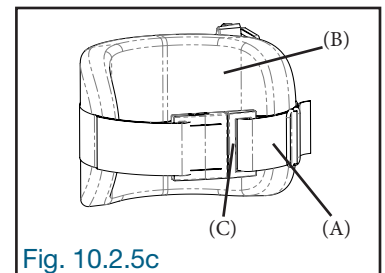

Fig. 10.2.5c
The strap (A) of the knee stop (B) must be adjusted and tightened to the user's body to hold it in place. To do this, adjust the length of the strap (A) by sliding it on the buckle (C) to the required length. Once the length is determined, attach the buckle (C) firmly (Fig. 10.2.5c).